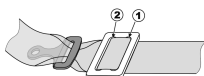

Figure 10
- A. Three-bar adjusters may be used for wrap mounting shoulder belts around harness bars or leg straps around mounting bars. The adjusters can also be used to secure webbing wrapped through attachment hardware. When three-bar adjusters are used, they shall be placed as close to the mounting points as possible. Figures 10 through 14 have the proper wrapping techniques detailed in them: